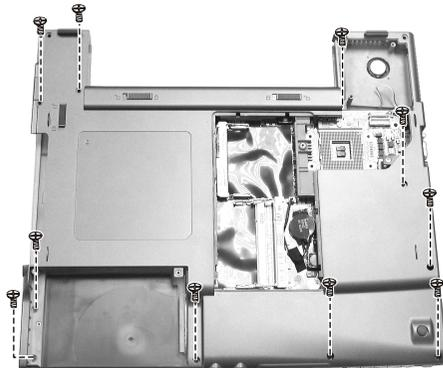

Figure 2-22 Unscrew nine screws
4. Remove nine screws on the bottom of notebook. (Figure 2-22)